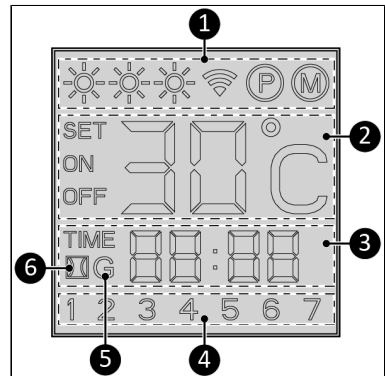

Figure 5.
Status indication (Figure 5, pos. 1):
Temperature indication (Figure 5, pos. 2):
Time indication (Figure 5, pos. 3):
Day indication (Figure 5, pos. 4):
Wi-Fi indication (Figure 5, pos. 5):
Open window detection (Figure 5, pos. 6):